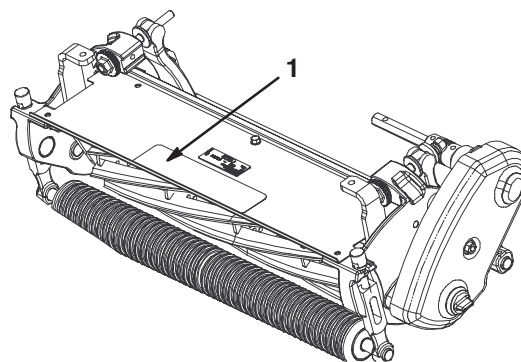

Figure 8
4. For ANSI B71.4–2004 compliance, affix the danger decal (Fig. 8) on top of existing decal on cutting unit grass shield.